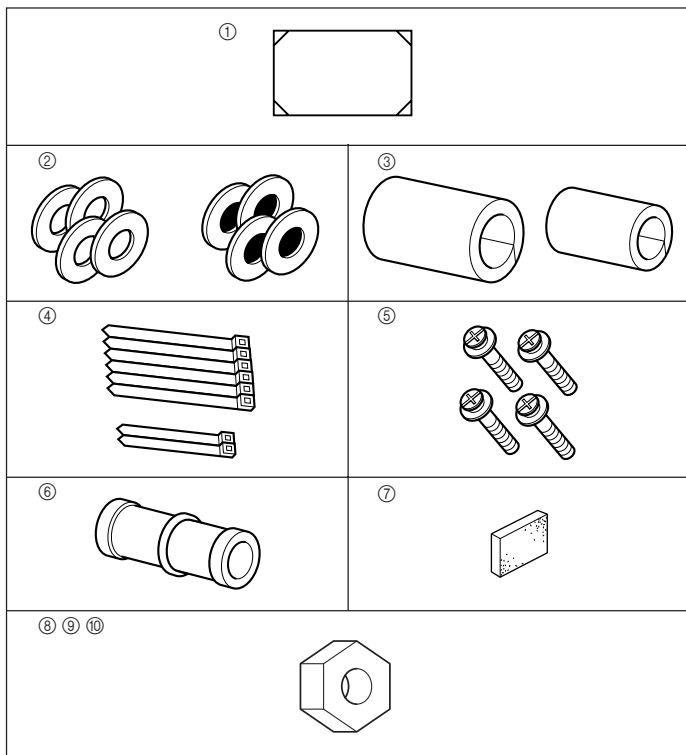

Fig. 2-1
2.1. Check the indoor unit accessories (Fig. 2-1)